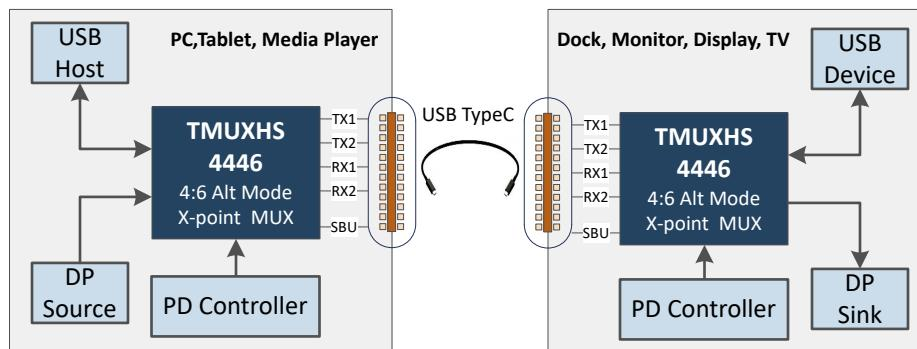

图 7-1. TMUXHS4446 in USB Type-C Source and Sink Applications
The crosspoint selection of the device is typically configured by a USB power delivery (PD) controller by an I²C interface. The TMUXHS4446 is an analog mux which can be used in USB Type-C ecosystem with DP as alternate mode in two distinct application configurations: one is for DP Source/USB Host, the other one for the DP Sink/USB Device/Dock. 图 7-1 shows a typical application block diagrams for these two cases: left source and right sink.